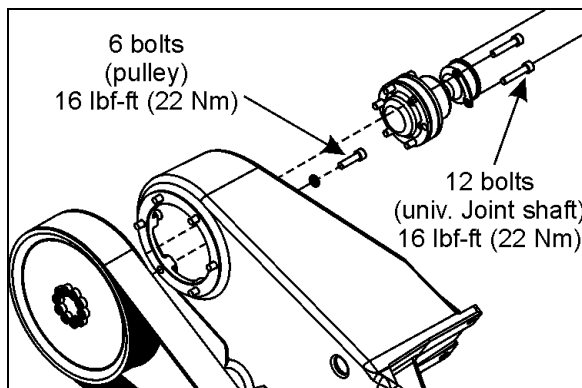

FIGURE 18: TIGHTENING SPECIFICATION
2. Dismount the drive pulley. Gain access to the 6 mounting bolts from behind the pulley, through the opening in the cast aluminum support (Fig. 18).
3. Unscrew and remove the universal joint shaft mounting bolts (6) at the right angle gearbox.